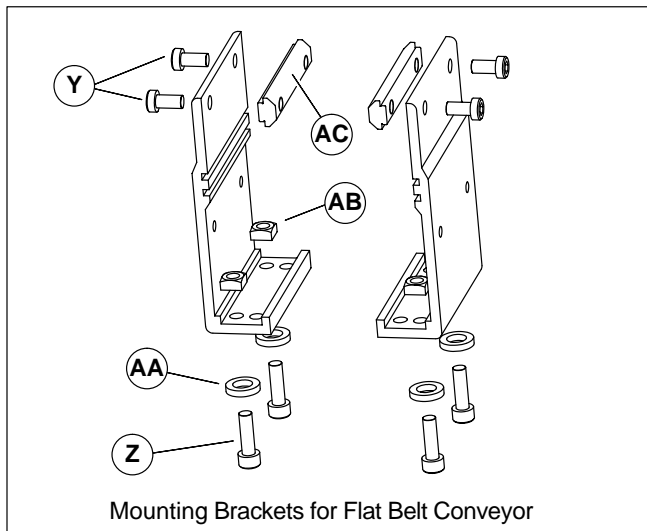
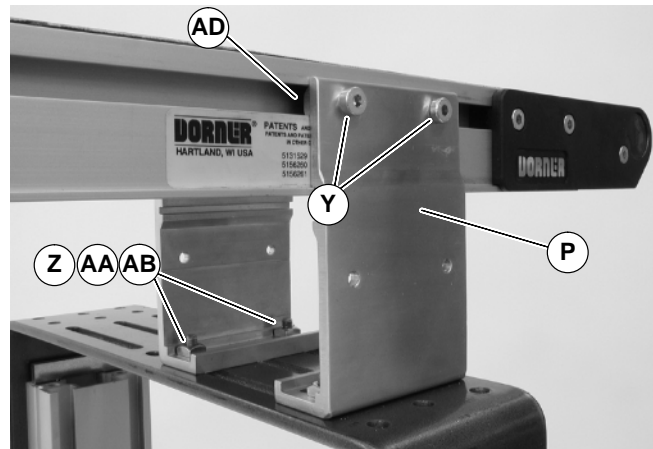

Figure 9
Figure 10
1. Locate brackets. Exploded views shown in Figures 9.
2. Remove screws (Y & Z of Figures 9), washers (AA), nuts (AB) and T-bars (AC) from brackets.
3. Insert T-bars (AC of Figures 9) into conveyor side slots (AD of Figure 10). Fasten brackets (P of Figure 10) to conveyor with mounting screws (Y).
4. Fasten brackets to support stand with mounting screws (Z of Figure 10), washers (AA) and nuts (AB).
5. Tighten screws (Y & Z of Figure 10) to 60 in-lb (7 Nm).